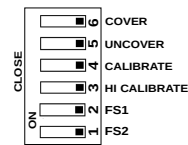

Figure 17: DIP Switch
- Ensure that all DIP switches are in OPEN position as shown in Figure 17. Make sure that STATUS LED is not blinking for error.